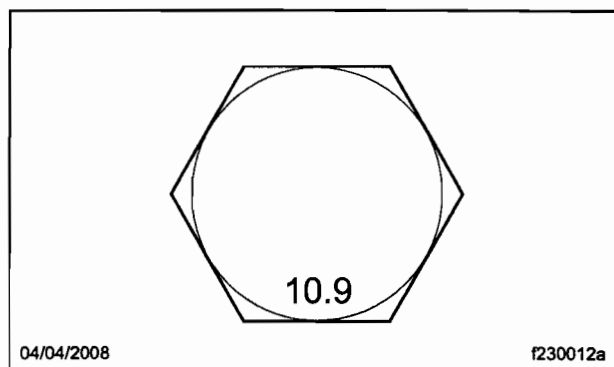

Fig. 1, Bolt Strength Identification
2. On each caliper on the front axle (FL521A and FL521B), inspect each anchor plate bolt to ensure it has "10.9" stamped on the bolt head. Inspect all front axle calipers. See Fig. 1.